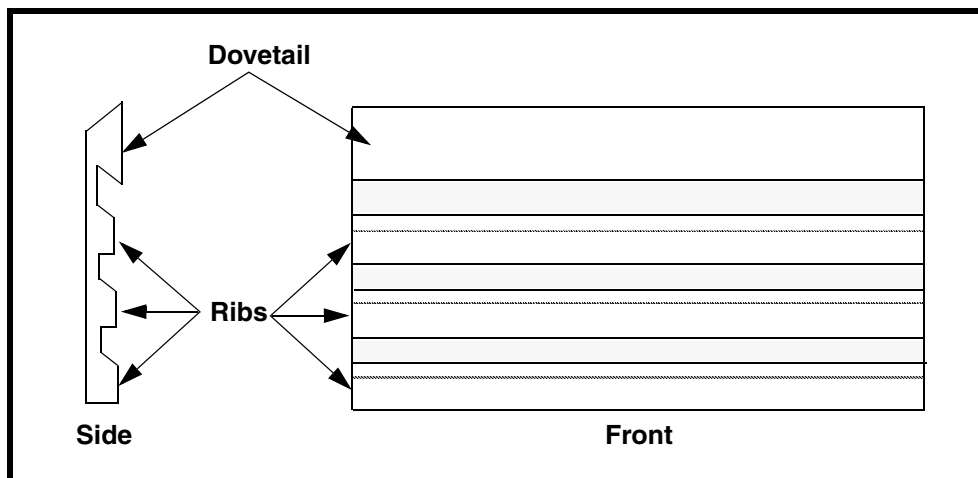

Figure 3. Urethane Secondary Seal
- b. Lay secondary seal on top of primary seal with dovetail and ribs facing down and dovetail on top (see Figure 3).